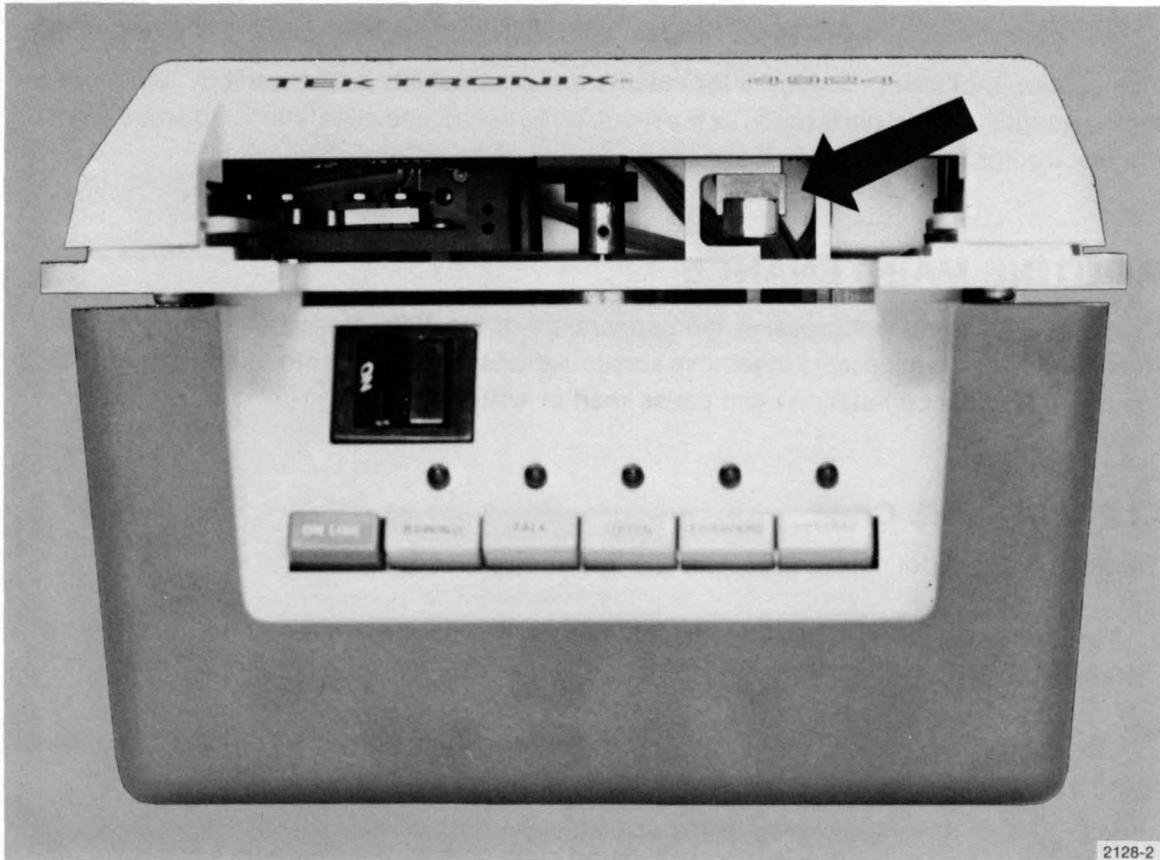
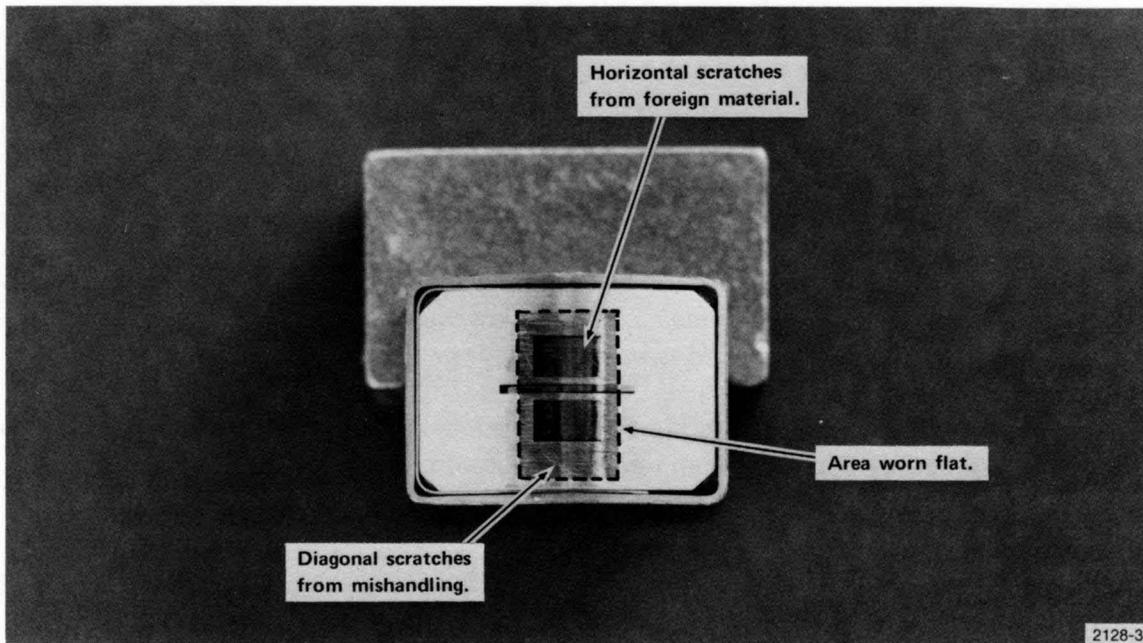

Fig. 3-1. Tape Head Location.
Fig. 3-2. Tape Head Damage.
The surface of the tape head (Fig. 3-1) must be kept clean to prevent read and write errors. Head life and data reliability are directly related to cartridge and tape head care. Oxide deposits, dust, and other foreign particles may be deposited on the head during operation, causing data errors. In addition, these particles act as abrasives when propelled across the head by tape motion, increasing head wear and reducing head life.
1. Inspect the head (Fig. 3-1) by shining a light, such as a penlight, across the surface of the head at an angle. This will reveal accumulations of oxide, and will also reveal damage to the head. If the head is scratched, scored, or excessively worn (Fig. 3-2), it should be replaced, as described later in this section. If the head is dirty, continue with this procedure.
It is necessary to replace the Read/Write head if it becomes badly worn, scratched, or otherwise damaged. Refer to the earlier description of cleaning the Read/Write head and Fig. 3-2 for inspection procedures and damage indications.